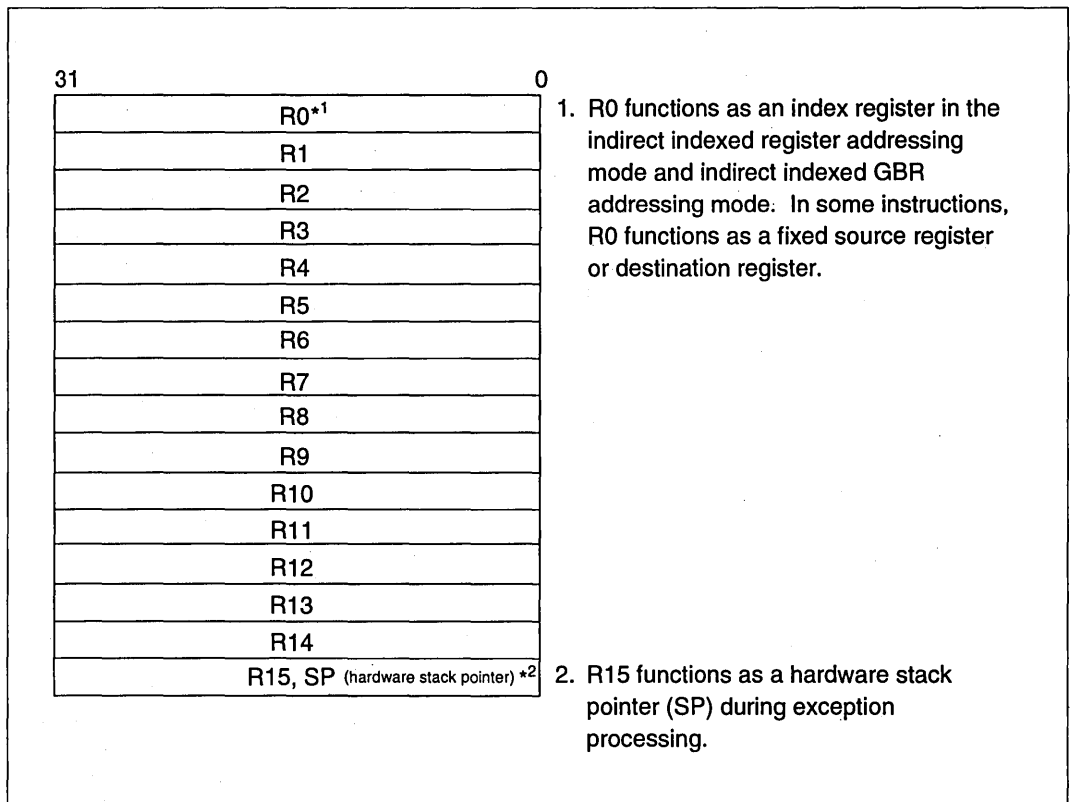

Figure 2.1 General Registers
There are 16 general registers (Rn) numbered R0–R15, which are 32 bits in length (figure 2.1). General registers are used for data processing and address calculation. R0 is also used as an index register. Several instructions use R0 as a fixed source or destination register. R15 is used as the hardware stack pointer (SP). Saving and recovering the status register (SR) and program counter (PC) in exception processing is accomplished by referencing the stack using R15.